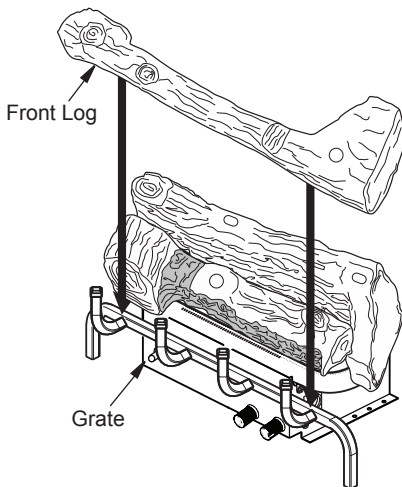

Figure 19 - Installing Front Log
3. Place front log (#3) onto grate as shown in Figure 19.